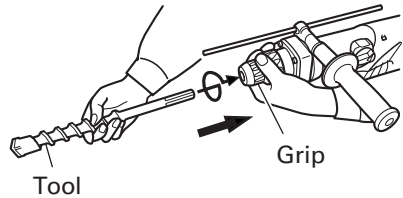

Fig. 2
- (1) Clean, then smear the tool shank with the grease provided in the green tube.
- (2) To attach the tool (SDS max shank), insert it into the hole until it contacts the innermost end of the hole as illustrated in Fig. 2.